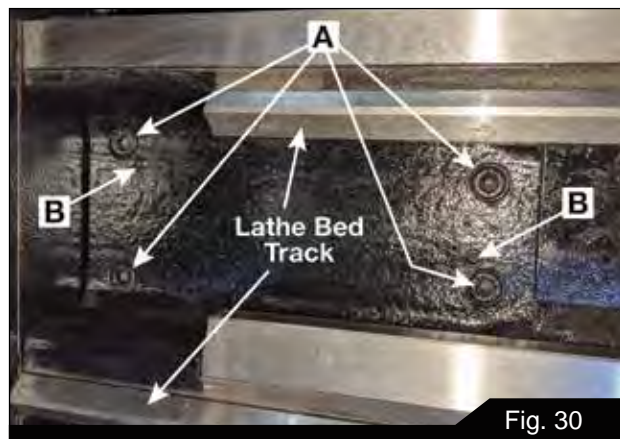

Fig. 30
1. To remove the gap section (Figure 30), first loosen the two set screws (B), then remove the four socket head cap bolts (A).